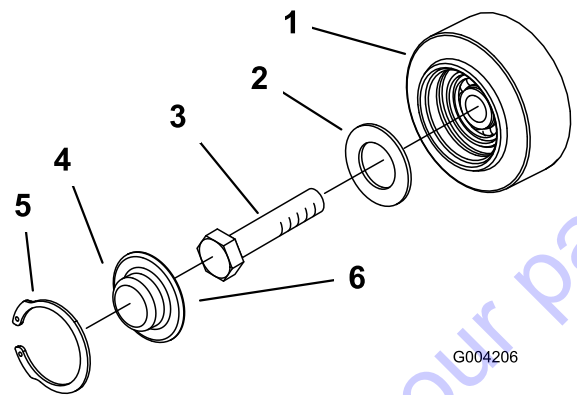

Figure 51
3. Remove the snap ring and cap from a road wheel (Figure 51).
4. Check the grease under the cap and around the gasket (Figure 51). If it is dirty, gritty, or depleted, clean out all of the grease, replace the gasket, and add new grease.